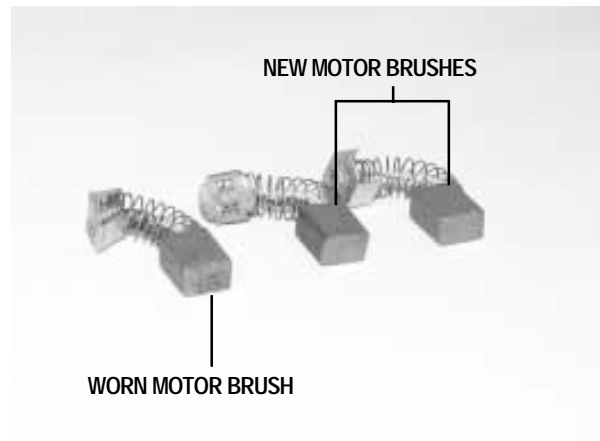

Figure 17. Motor Brushes
4. Inspect for wear. See figure 17.